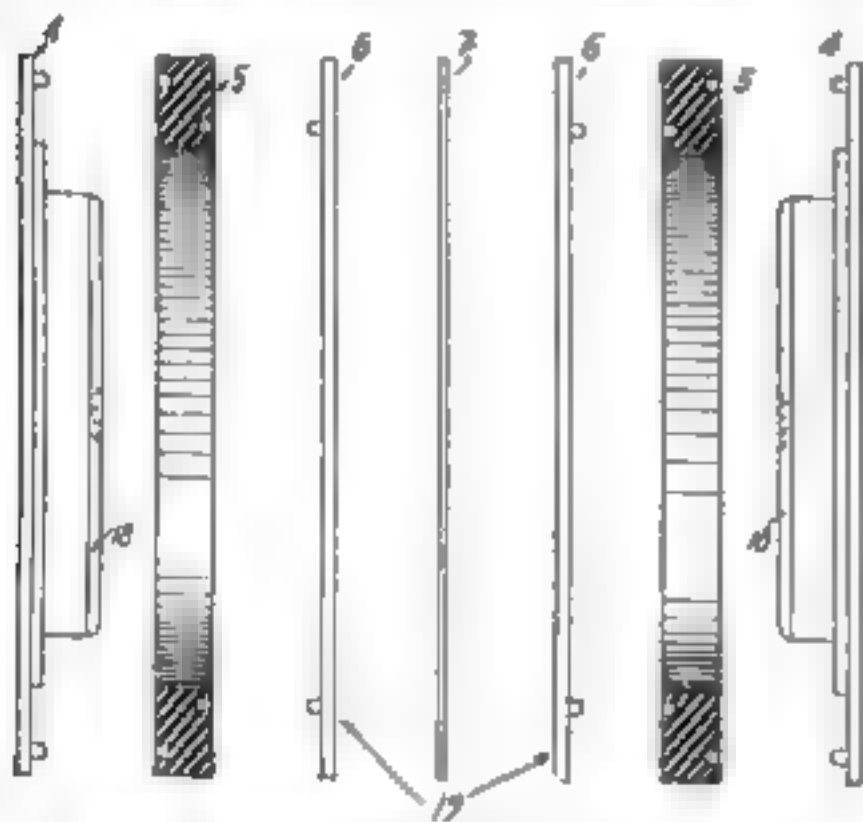

Fig. 1. Metallic spacing washers used in the new quenched spark gap
**I**N designing quenched spark-gaps a number of inventors have attempted to produce dischargers in which the spacing of plates, or length of gap, would not be determined by the pressure applied to the gaskets separating the elements of the gap. When thin press-board or rubber composition gaskets are used under heavy pressure, the gaps sometimes become too short. This is especially likely to happen when the apparatus grows hot after long use. A method of construction patented by R. Pfund in late 1915, and shown in specification 1,161,520, from which Fig. 1 is reproduced, avoids some of these troubles by using metallic spacing-washers. The gap elements are made up, as shown in this drawing, from base plates 4 which have attached to them the raised sparking-surfaces 18. Insulating-rings 5 support metal rings 6, and, after the half unit consisting of 4, 18, 5 and 6 is assembled the active gap surface 18 is turned off so as to be exactly in the
The complete assembly of the gap is shown in Fig. 2. Units built up as in Fig. 1 are supported upon the two lower rods 10, and between them are inserted